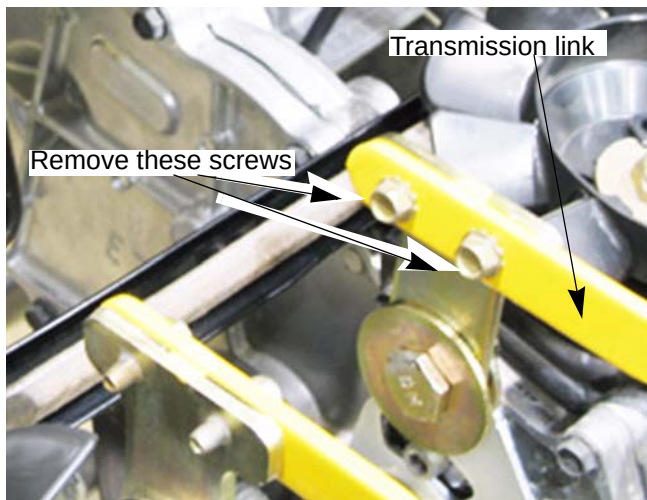

Figure 5.6
10. Remove the two screws that hold the transmission links to the shifter plate. See Figure 5.6.